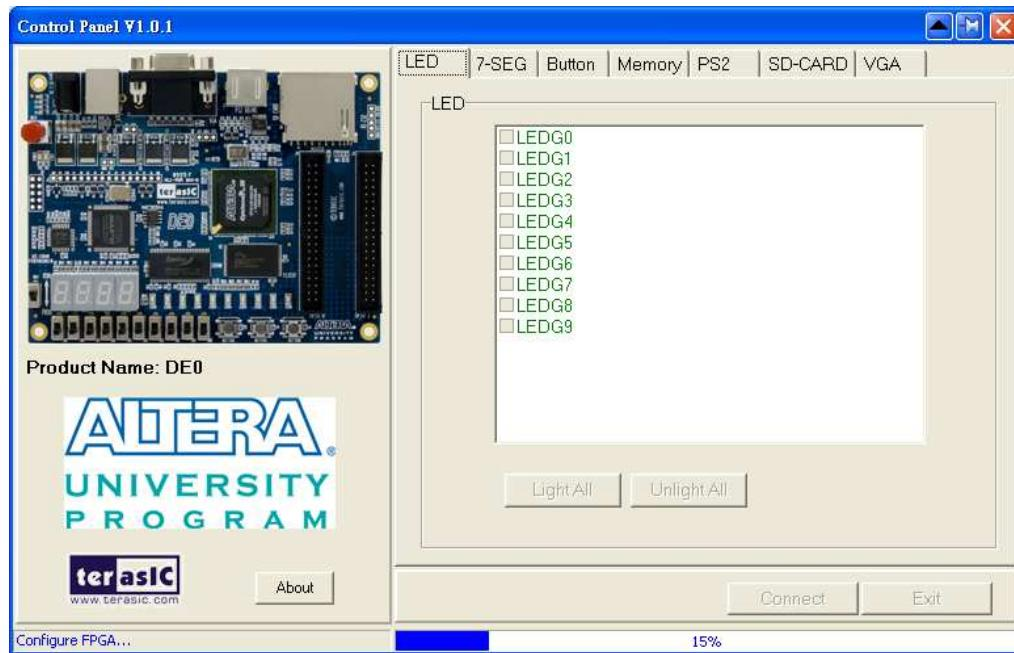

Figure 3.1. The DE0 Control Panel.
4. Start the executable *DE0\_ControlPanel.exe* on the host computer. The Control Panel user interface shown in Figure 3.1 will appear.